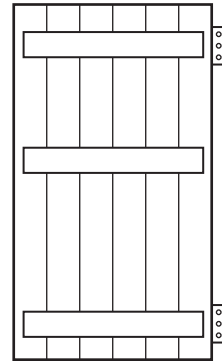

Fig. 1b
- (b) Show on Fig. 1b how the door can be modified to ensure it has greater structural strength.